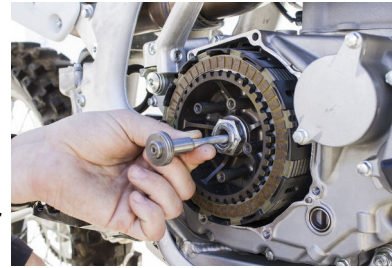

Figure 2
- Remove top hat, thrust bearing and washer (note that only one stock 1mm washer must be used to ensure actuator functions properly). (see figure 2)
- Remove push rod. (see figure 2)